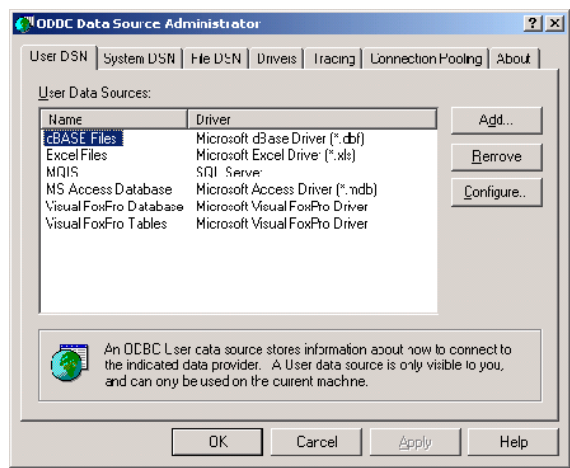

Figure 50. ODBC Data Source Administrator Dialog Box
1. From the configuration assistant, select **Create ODBC Data Source for the Oracle Database**, then click **Run Selected Configuration Tool**. This displays the ODBC Data Source Administrator dialog box shown in Figure 50.